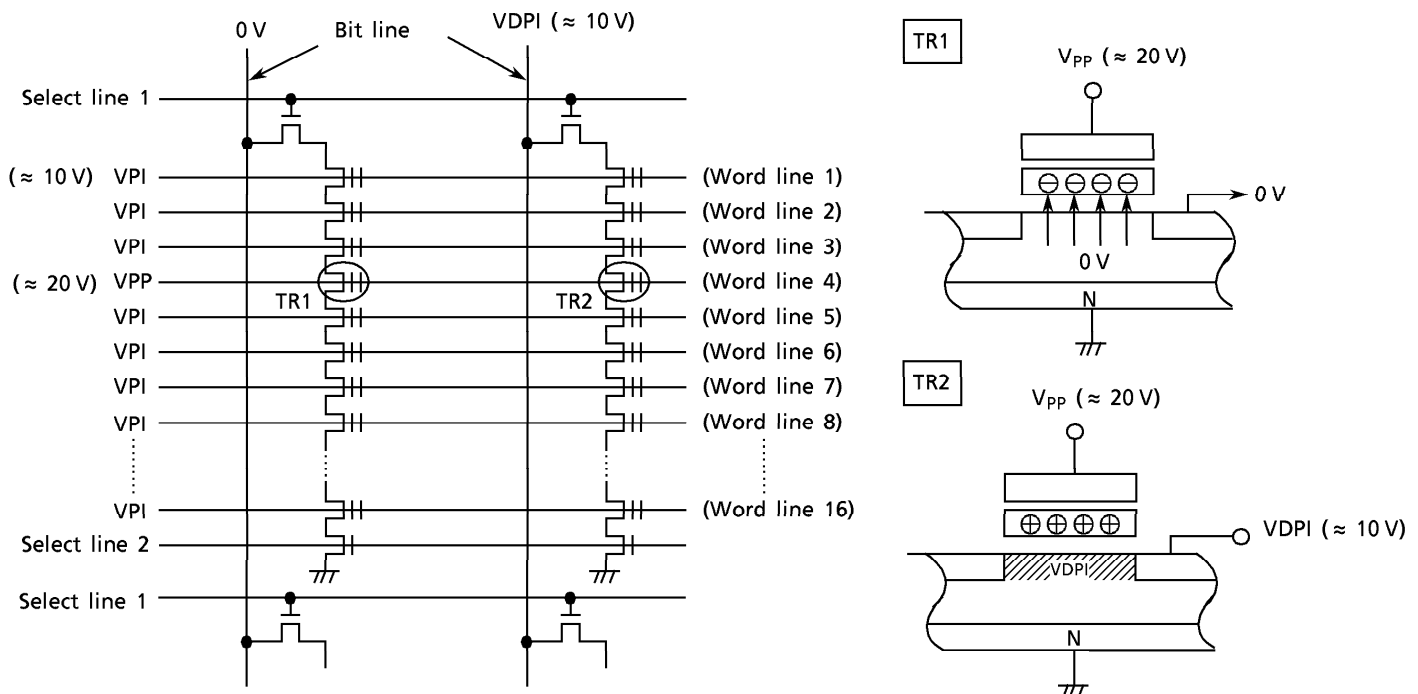

Figure 16. Program Device Physics
Figure 16 shows the NAND memory cell level details of the programming mechanism. The Program operation is used to write “0” data into an erased memory cell (“1” data cell) using a tunneling mechanism. An example Program operation to program “0” data into TR1 and “1” data into TR2 is as follows:
- (1) A high level is applied to Select line 1 and a low level is applied to Select line 2 so that the device is connected to the Bit line and disconnected from the ground line.
- (2) V_{pp} (≈ 20 V) is applied to the selected word line and an inhibit voltage of V_{PI} (≈ 10 V) is applied to the unselected word lines.
- (3) 0 volts is applied to the bit line tied to cell transistor TR1 and the inhibit voltage $VDPI$ (≈ 10 V) is applied to the bit line tied to TR2.
- (4) V_{pp} is applied between the control gate and the channel in TR1, as shown in Figure 16, which causes electrons to be injected from the channel to the floating gate by a tunneling mechanism.
- (5) The injected electrons are captured in the floating gate surrounded by an oxide layer and will remain, even after power is cut off, until they are removed by an Erase operation.
- (6) Although 20 volts is applied to the control gate of TR2, the voltage difference between the control gate and the channel is only 10 V because the voltage of the channel is 10 V. Therefore, tunneling does not take place. (i.e. the electron is not injected into the floating gate.)
- (7) Tunneling does not take place in the unselected pages because of the 10 V (V_{PI}) applied to the unselected word lines which makes the voltage difference between the control gate and channel only 10 volts.